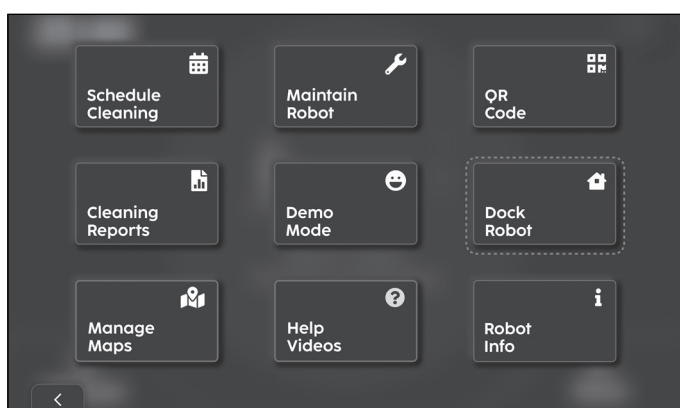

Figure 60
2. Select 'Dock Robot' (Fig. 60).
- On the touchscreen, select 'Dock Robot' (**Fig. 60**).